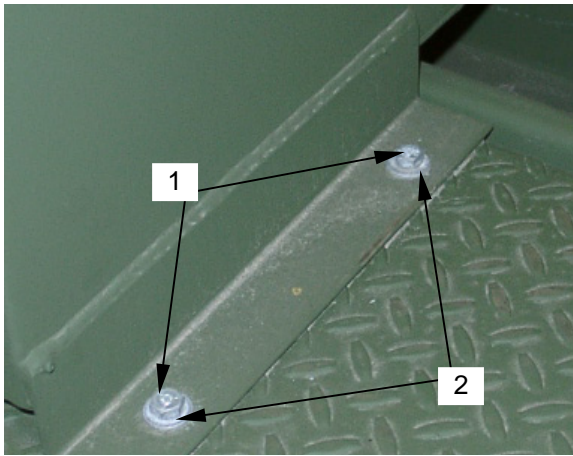
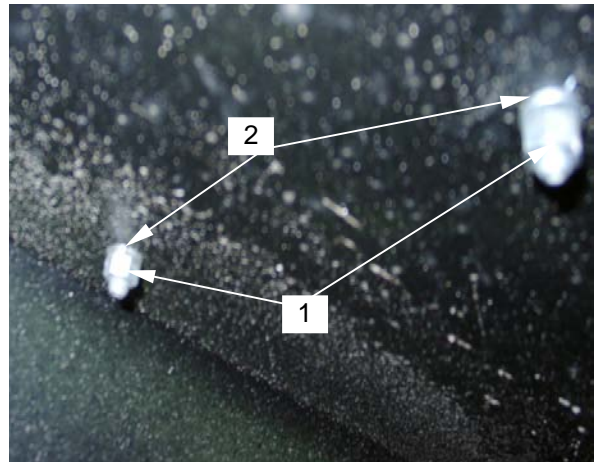

Figure 3. Tool Box Mounting Bolts
Figure 4. Tool Box Hex Nuts
3. Loosen and remove tool box mounting bolts (**figure 3, item 1**), flat washers (**figure 3, item 2**) nuts (**figure 4, item 1**) and lock washers (**figure 4, item 2**)
6. Fasten toolbox in place with mounting bolts (**figure 3, item 1**), flat washers (**figure 3, item 2**), nuts (**figure 4, item 1**) and lock washers (**figure 4, item 2**).